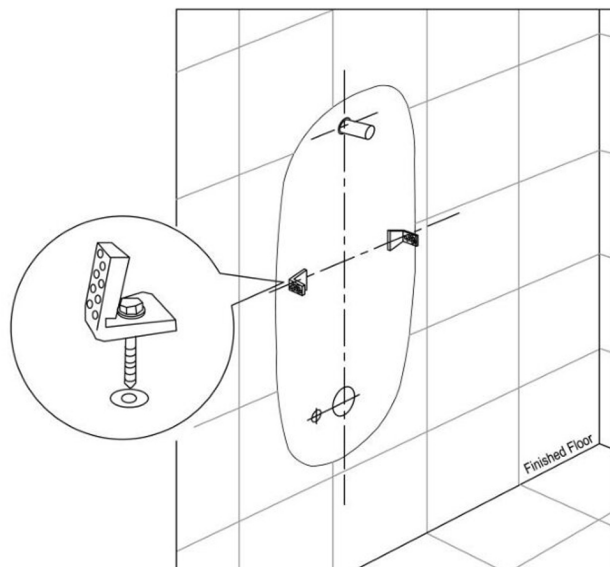

Fig. 5
3. Fit 'L' shape mounting brackets to wall with fixings supplied (Fig. 5)